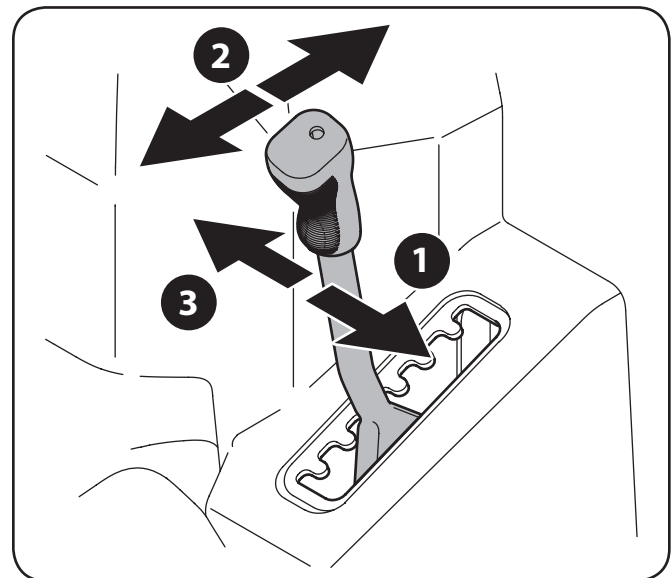

Figure 4-3
4. Pivot the deck lift lever outward (1 in Figure 4-3).
5. Move the lever forward to lower, and rearward to raise (2) the cutting height of the deck.
6. Allow the deck lift lever to pivot back towards the mowing attachment and into the locked position as shown in 3 of Figure 4-3.